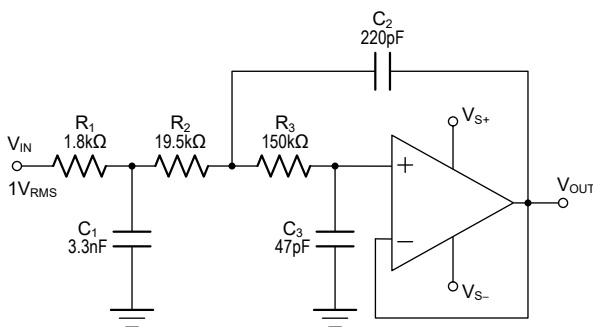

Figure 6. Configured as a Three-Pole, 20-kHz, Sallen-Key Filter
3. using a non-inverting filter topology, such as the Sallen-Key (shown in Figure 6).